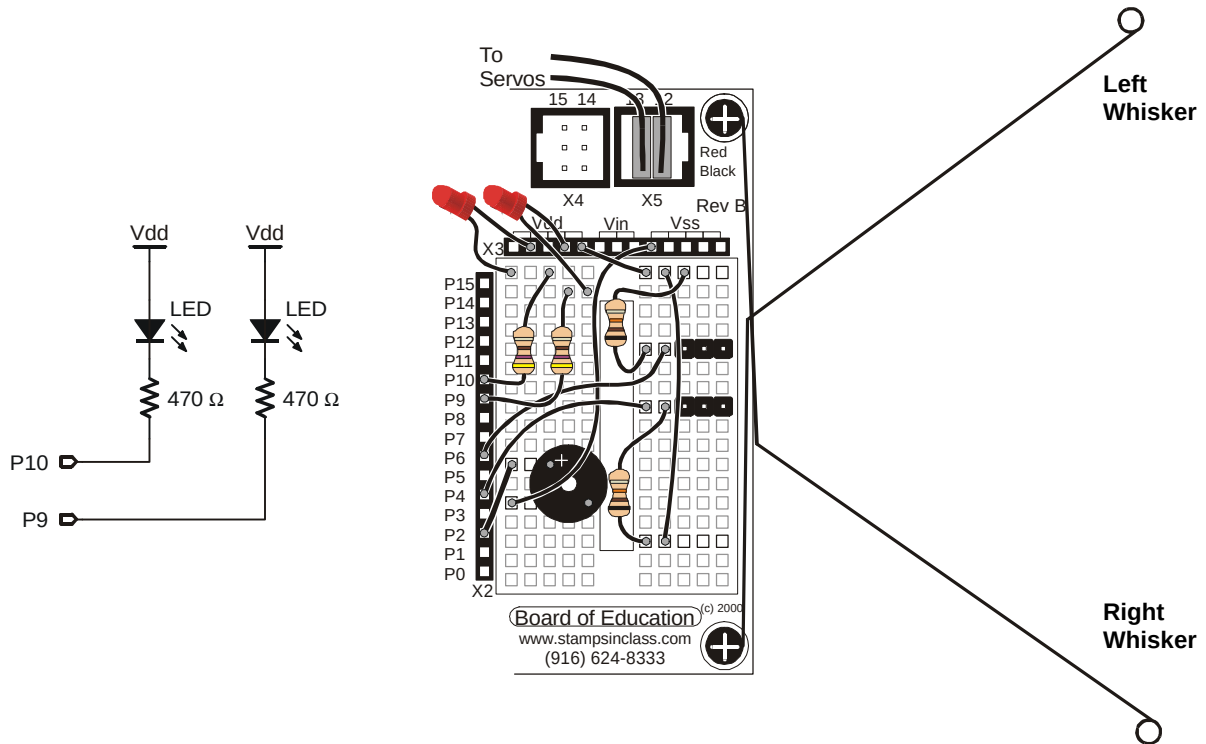

Figure 3.7 (a): add this LED circuit,
- Construct the circuit shown in Figure 3.7.